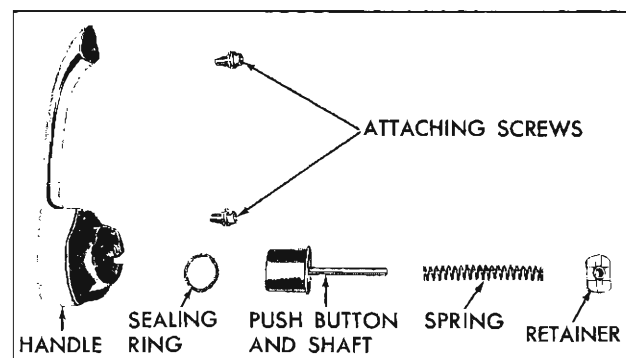

Fig. 16—Front-Rear Door Outside Handle Disassembled
3. To assemble, reverse disassembly procedure (fig. 16).